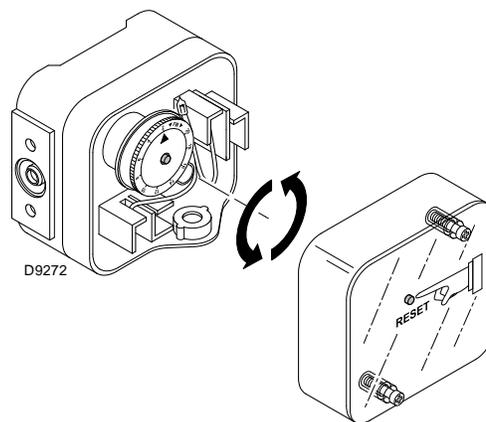

Fig. 46
- Adjust the high gas pressure switch to the upper limit of the scale (Fig. 46).
Adjust the maximum gas pressure switch after having performed all other burner adjustments with the maximum gas pressure switch set to the end of the scale (Fig. 46).